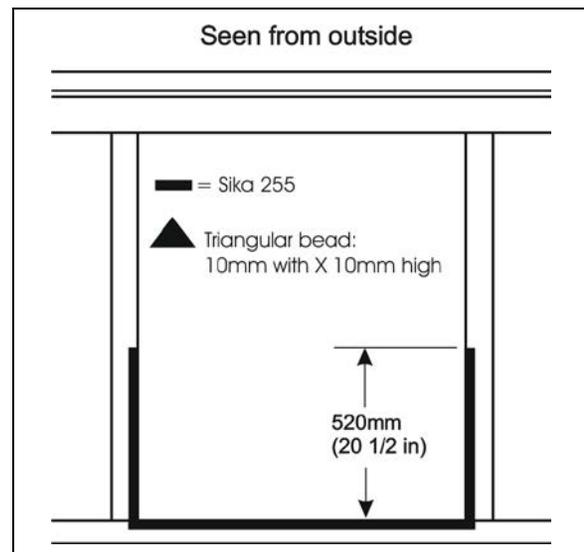

**FIGURE 64 : SIKA 255 APPLICATION**
- Apply Sika 255 in the upper and lower frame corner as per FIGURE 64.